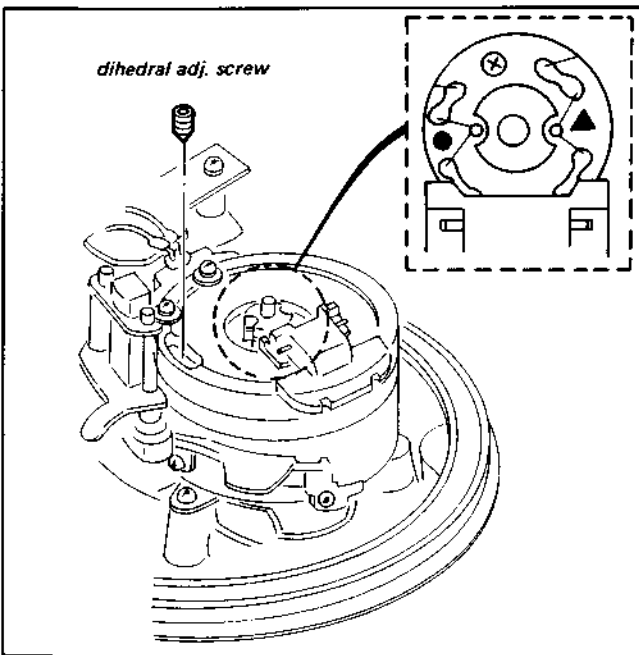

Fig. 3-54.
- When the dihedral is no-good, the preparation of the video head dihedral adjustment is to install two dihedral adjusting screws in the holes close to the small mark (•) shown in Fig. 3-54 and tighten them until the screw heads are level with the top surface of the video head disk. (If the screws are not tightened until their heads become level with the surface, the upper drum of the video head disk is caught by the adjusting screw heads and the video head disk cannot rotate. If the screws are tightened excessively, the head base is moved and the dihedral distortion becomes larger.)